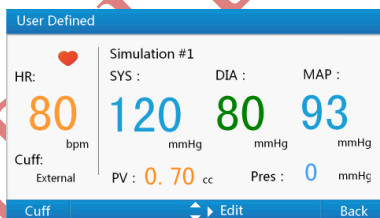

Figure 22 User defined BP simulation interface
1) Select "User-Defined" in "BP Simulation Menu" or use number key "0" to the user defined BP simulation interface shown as Figure 22.
In this interface, press right key to the edit interface shown as Figure 22. In edit interface, press left or right key to select the parameter to be edited, use number keys to input parameter and after entering a digit, the cursor will automatically move to next digit for input. After inputting the BP parameter, press "Enter Key" to save. In this interface, pressing "Return Key" can get back to the user defined BP simulation interface.